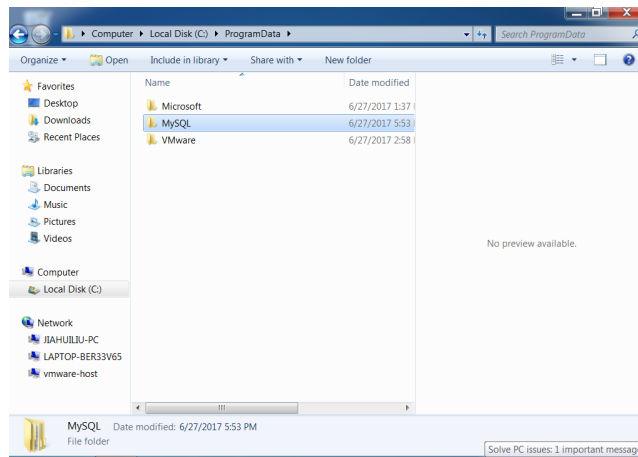

Figure B6
- Change the Windows settings so that hidden folders can be viewed. Open the "c:\ProgramData" folder and delete the MySQL folder. (Figure B6)